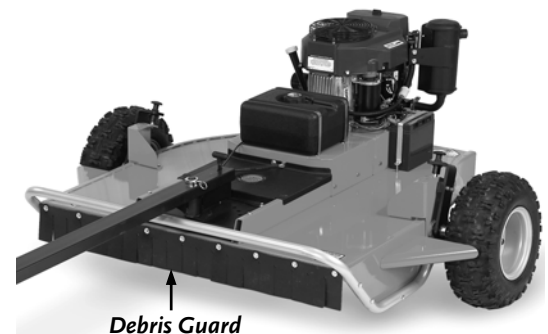

Figure 26
- When performing any adjustment or maintenance, you must first shut off the engine, wait five (5) minutes to allow parts to cool and disconnect the spark plug wire(s), keeping it away from the spark plug(s).
- Consider a Debris Guard (**Figure 26**) damaged when a flap is missing or torn.